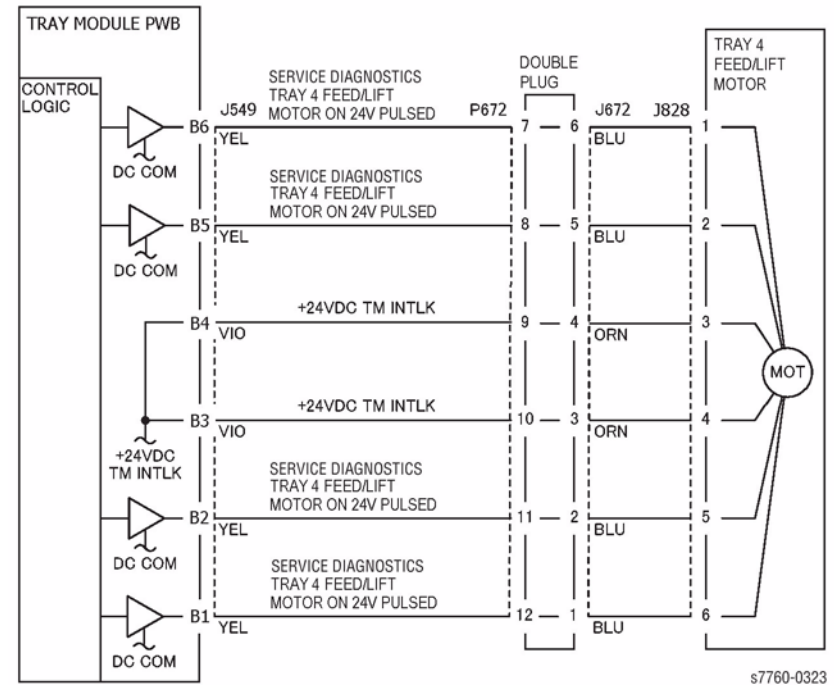
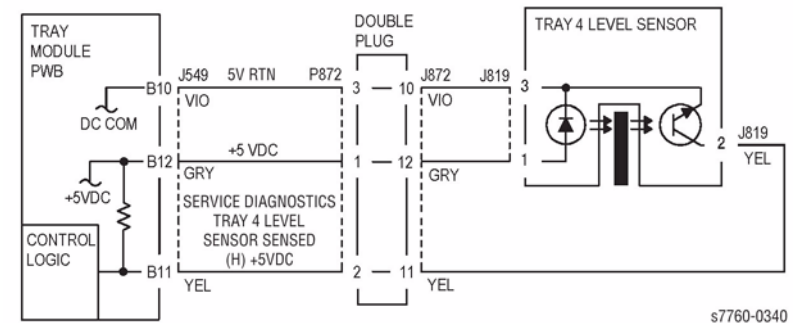

Figure 1 007-291 Tray 4 Lift/Feed Motor (TTM)
Figure 2 007-291 Tray 4 Level Sensor (TTM)
- Ensure that the connectors show in the circuit diagrams (Figure 1, Figure 2) are securely connected and that the wires are not damaged.